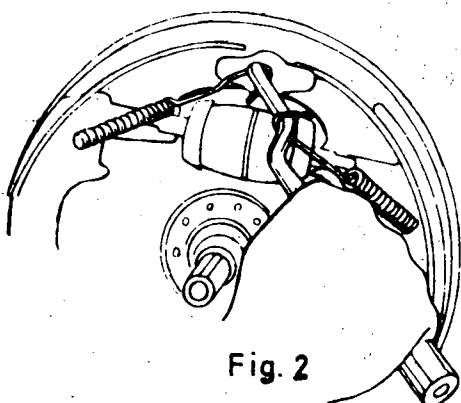

Fig. 2
- a) Remove the return springs of the brake shoes (fig. 2).